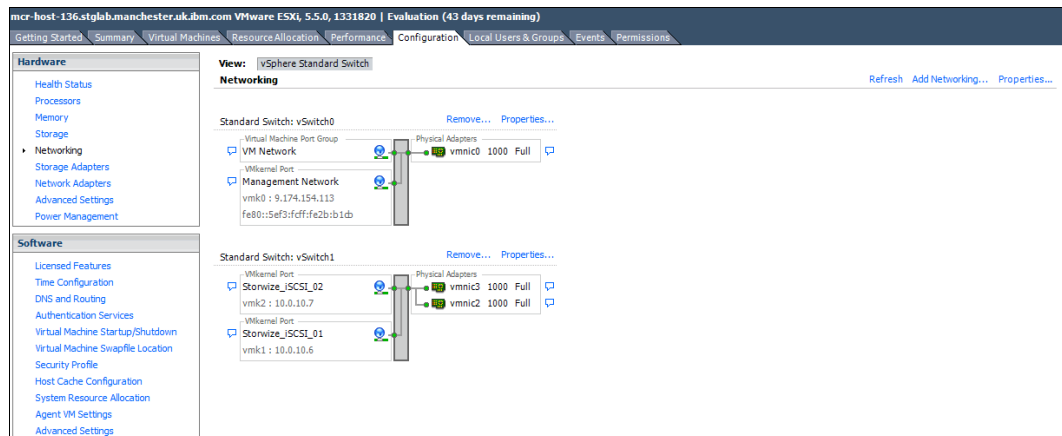

Figure 4-24 The finished network Configuration page
11. In this example, you create a second VMkernel port with IP 10.0.10.7. The network configuration page should now look like Figure 4-24.